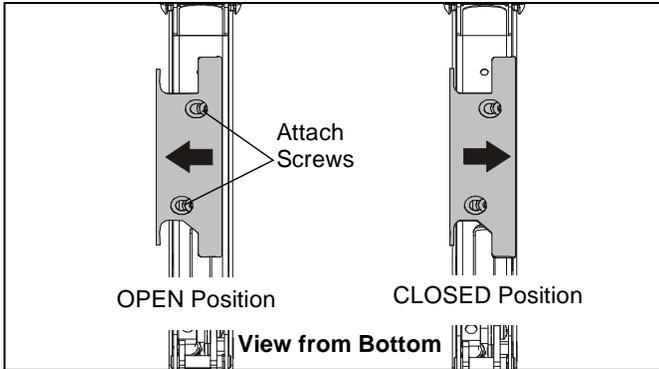

Figure 8
- Open the cable management bracket on the height-adjust arm by sliding bracket towards the edge of the arm. (See Figure 8)
- Close cable management bracket by sliding it back towards the centerline of the arm. (See Figure 8)